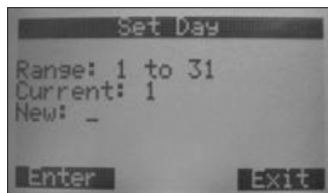

Figure 5 – Date Menu, Set Day Function
- Time: Set the time, including hour, 0-23, and minute, 0-59. See Figures 5 and 6.